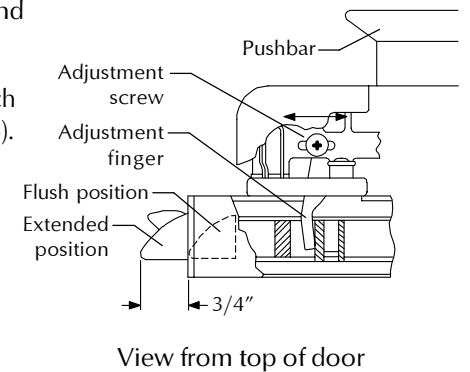

Figure 4
A. Loosen adjustment screws on top and bottom of device (Figure 4).
B. Move adjustment finger toward latch bolt until it is fully extended (Figure 4).